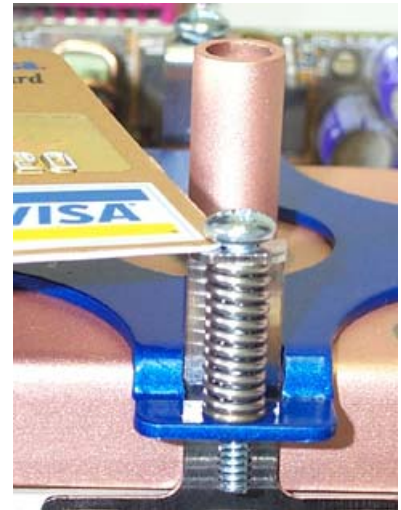

Figure 3
- ❑ Continue backing off until **the head of the screw completely clears the top of the bracket, as shown figure 3.**